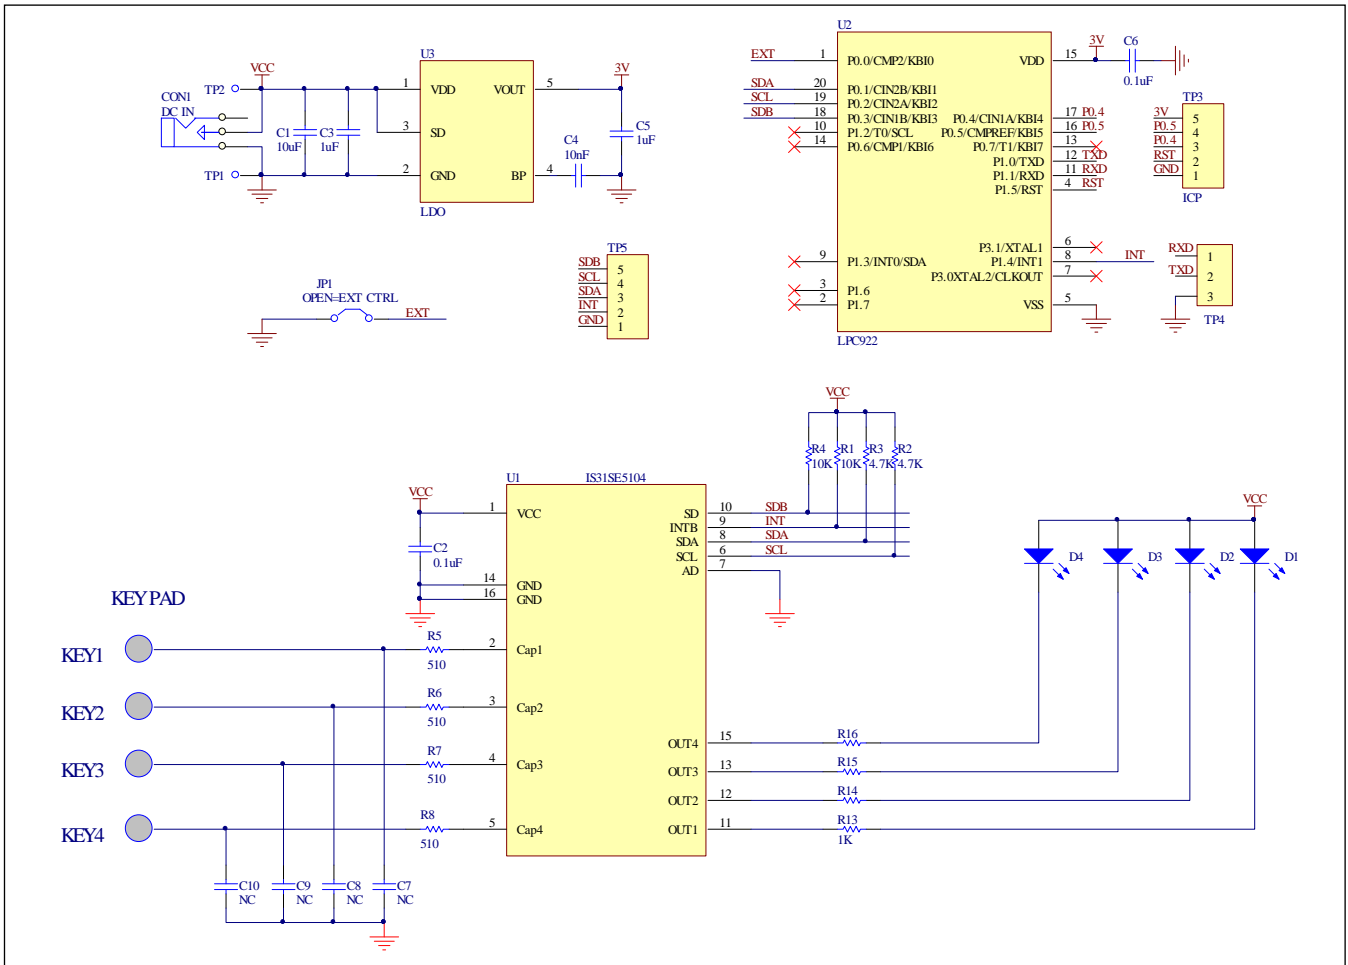

Figure 3: IS31SE5104 Application Schematic
*Bill of Materials, refer to Figure 3 above.*